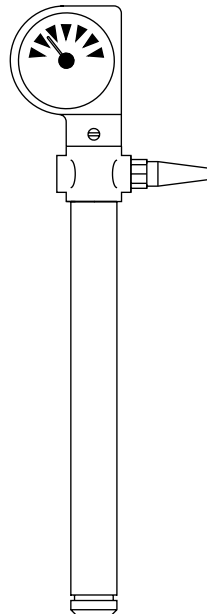

Fig. 5
The dial head itself may be rotated through 180° if necessary. In such cases the following procedure should be adopted making reference to Figure 2 and Figure 5 except where stated:-
1. Remove the tamper-proof plug (6) and use a suitable screwdriver to set the indicator (3) to the midway point (1).
2. Remove the transparent cover (2).
3. Remove the indicator (3).
4. Remove the dial head retaining screws (5).
5. Rotate the indicator through 180° (Figure 5).
6. Replace the dial head retaining screws (5).